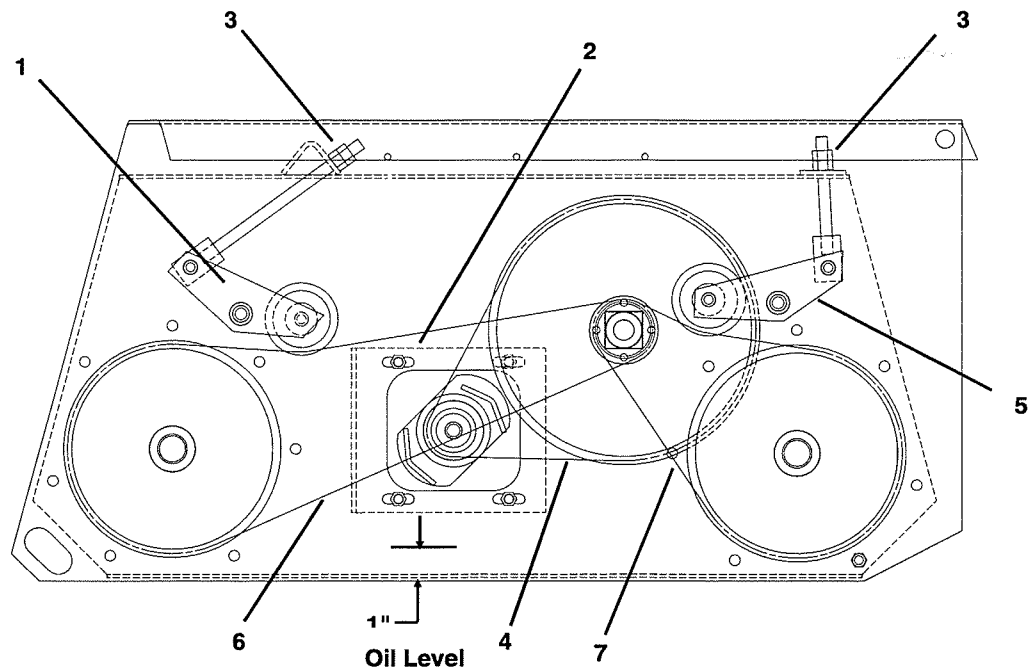

Fig. 29: 3725/3825 Adjusting Drive Chain Tension
8. Replenish the Chaincase oil level to approximately 1" deep, if necessary. (see Fig. 29) Then, reinstall both Chaincase Access Covers and Gaskets.